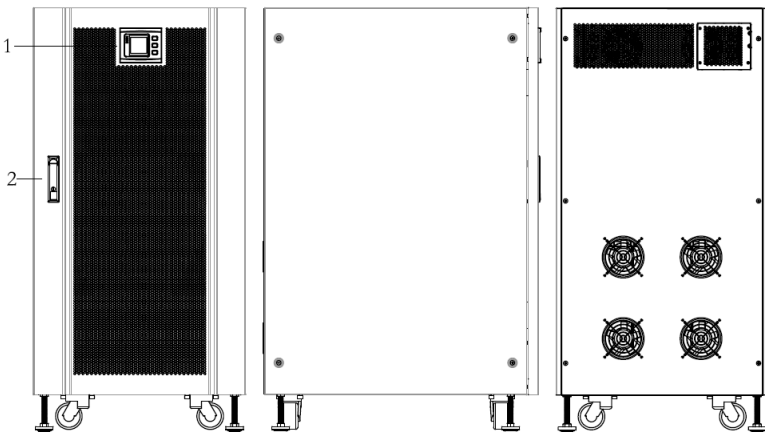

Fig. 3-7 Front, side and rear views of the Triton system with only one UPS-module.
Figure (Fig. 3-7, above) shows the three views of the UPS. The equipment can be rolled and be safely fixed into position with adjustable stands. All elements necessary for the operation are located in the front of the device (-door). This includes only the control panel (1). The emergency off button EPO (2). A locking